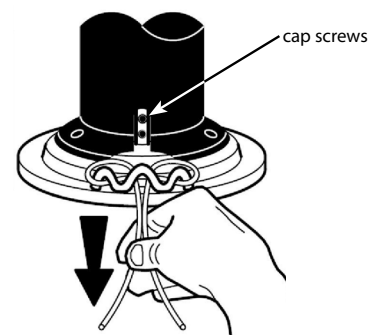

Figure 13: Check ends of line
5. Then, check to make sure that the ends of the line are even. **SEE FIGURE 13.**